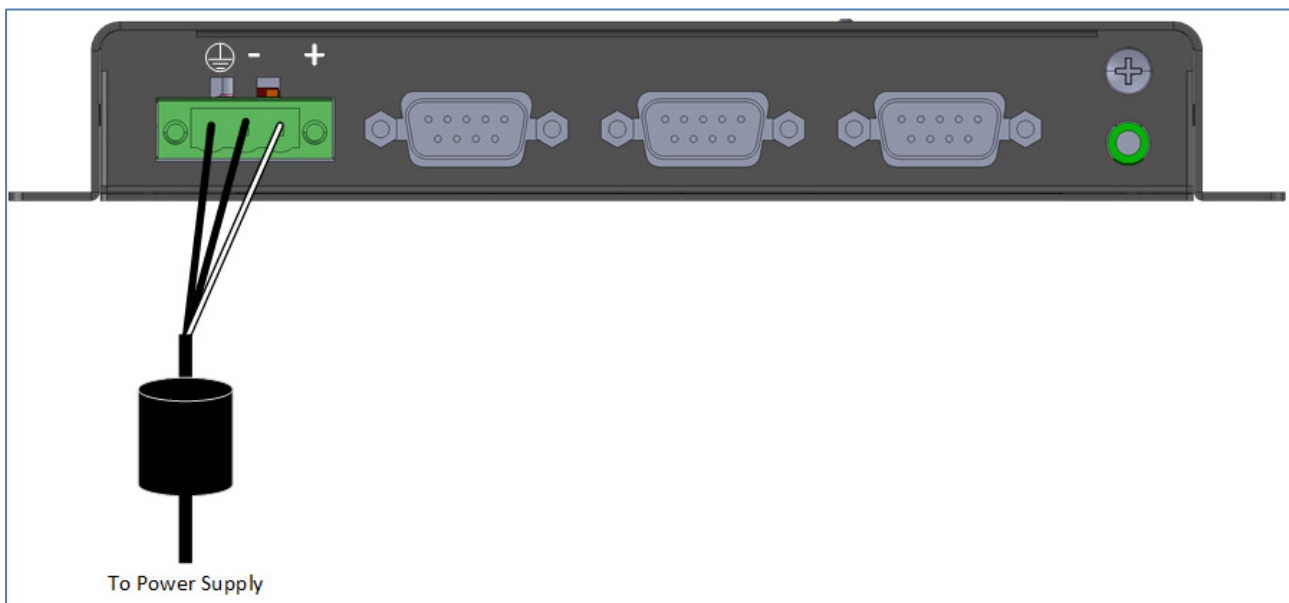

Figure 9: Comm-Box Power Supply Wiring
- The Comm-Box comes with the power supply wired to the unit. See Figure 9.